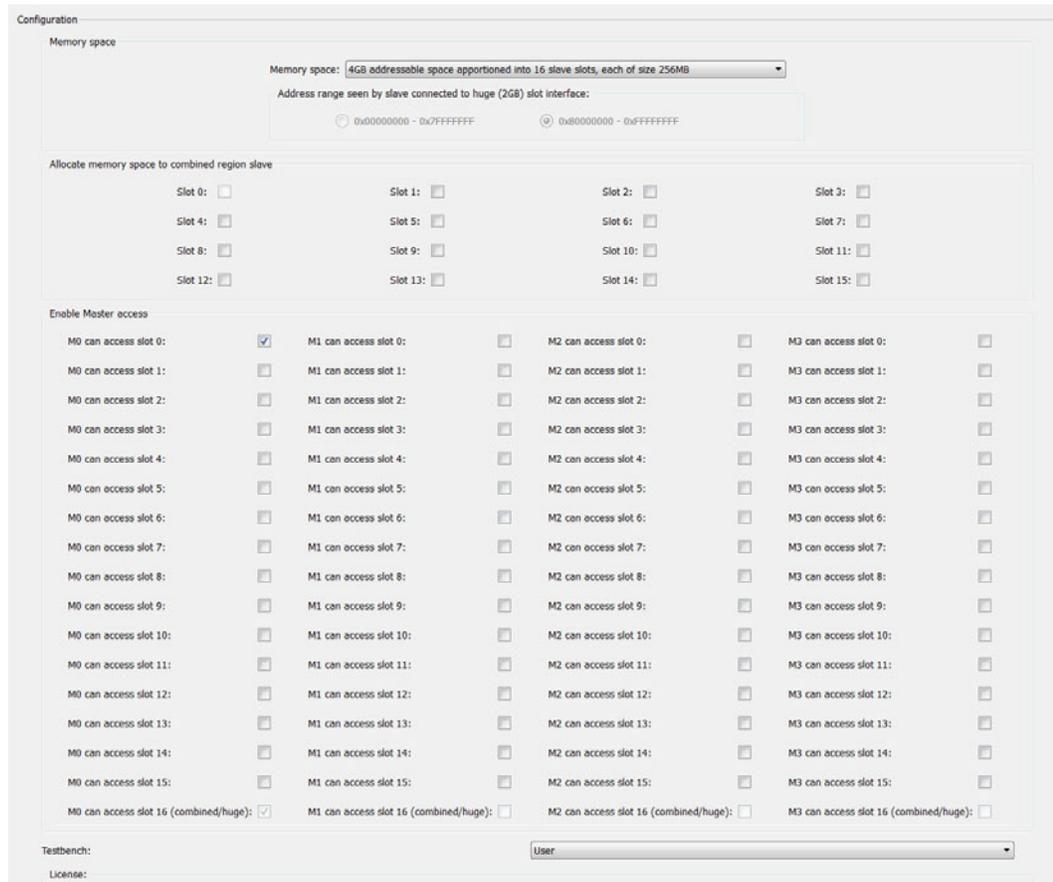

Figure 3-4 • Core AHBLite - Combined Region Master Configuration
1. Instantiate and configure the CoreAHBLite IP core from the Catalog. Enable the slots that you plan to use for your application as shown in Figure 3-4. In this example, CoreAHBLite is configured to address one 4GB of DDR RAM memory space using slot0 from master M0. Since you are addressing an external DDR memory, your slot size selection should match the amount of DDR memory space that you plan on addressing from the FPGA fabric master.